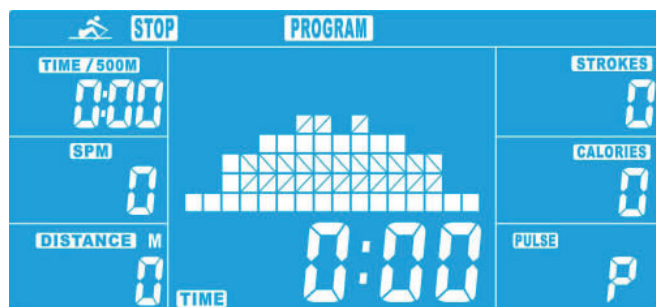

Figure 4
2. Press the UP or the DOWN button to select a profile (P1-P12, fig. 4). Confirm with the ENTER button.